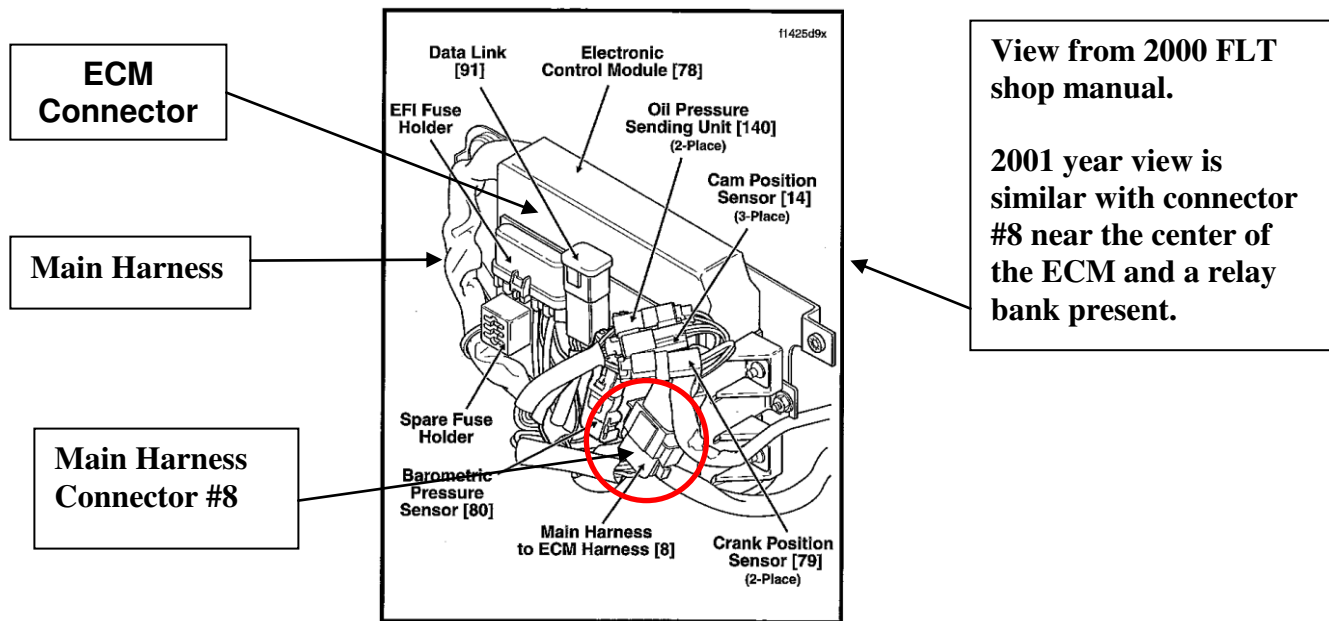

Figure A-32. Electrical Bracket - Fuel Injected Models (Under Right Side Cover)
3. Slide a common plastic wire tie through the plastic **main harness cover** toward the **ECM connector**. (See Fig. A-32, **Main harness to ECM harness [8]**) Using a piece of tape, attach 2" of the new wire to the wire tie and carefully pull it through the plastic wire cover. From there it can easily be routed with the existing wires to connector **#8B, pin 5**. Use a magnifying glass if necessary to identify terminal location (numbers are on connector). Terminals 72326-95 (ECM) and 72191-94 (Main Harness Connector) are included; identify the correct terminals and use the correct tool to crimp the terminals on the wire.